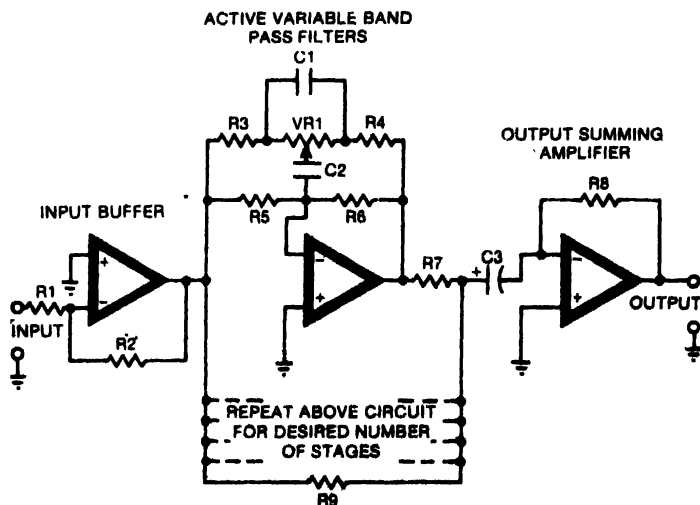

Fig. 2: The schematic diagram of the graphic equaliser.
**Graphic equaliser.** This is the most popular type of equaliser because of the fact that it is easiest to adjust. A graphic equaliser section is shown in Fig. 2. It consists of an input buffer, a desired number of active variable band pass filters and an output summing amplifier. The input buffer is a standard unity gain stage for impedance matching between the preamplifier and the equaliser section. The active filter section is actually a number of individual active filters with the same feedback design. In all the stages the values of C1 and C2 are responsible for setting the centre frequency. For VR1 normally linear pots are used. The setting of VR1 gives the degree of boost or cut desired in that stage.